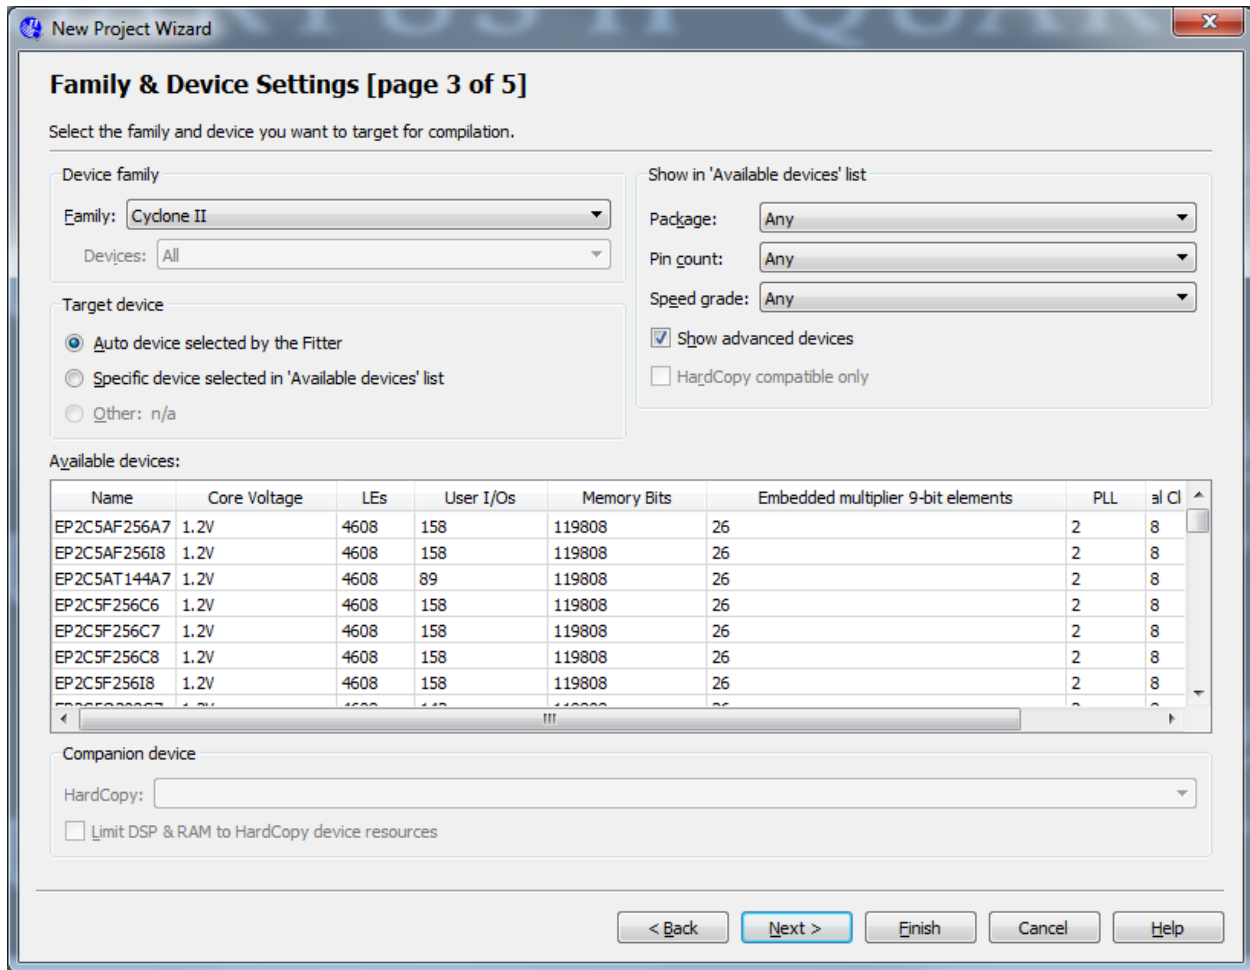

Figure 2
4. In the family and device setting step, select 'Auto device selected by the Fitter' or select the correct device we will be using for EEL 4712, shown in **Figure 2** then click next.